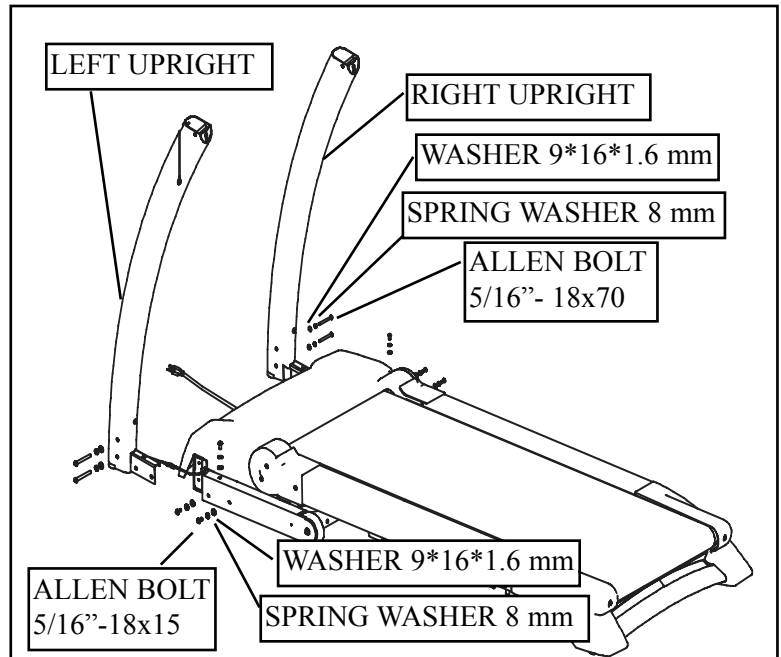

Figure 3: Left and Right Upright Installation
4. Install the Left and Right Uprights to the treadmill base frame by inserting the upright connecting bracket into base frame as seen in Figure 3, using Allen Bolt 5/16"-18 x 70 (Qty. 4), Spring Washer 8 mm (Qty. 4), and Washer 9*16*1.6 mm (Qty. 4).
Next, install the Allen Bolt 5/16"-18 x 15 (Qty. 6), Spring Washer 8 mm (Qty. 6), and Washer 9*16*1.6 mm (Qty. 6). Refer to Figure 3.